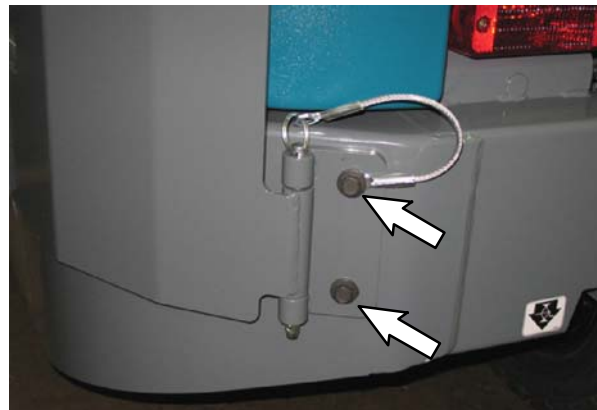

FIG. 3
6. Use saved SEMS hex screws to install both bumper mounting brackets (3) and the hitch pins onto the machine. (Fig. 3 / Fig. 5)